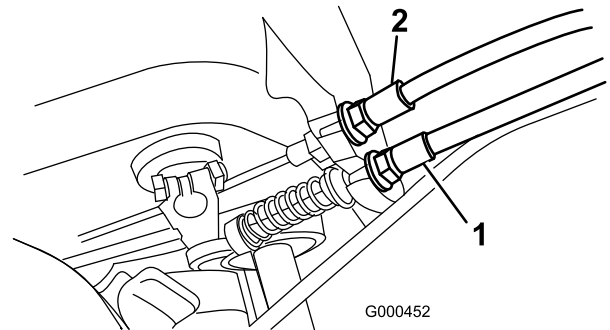

Figure 32
2. To increase cable tension, loosen front cable jam nut and tighten back cable jam nut (Figure 32) until a force of 11–14 lb. is required to engage brake. Force to be measured at lever knob. Do not over adjust, or brake band may drag.